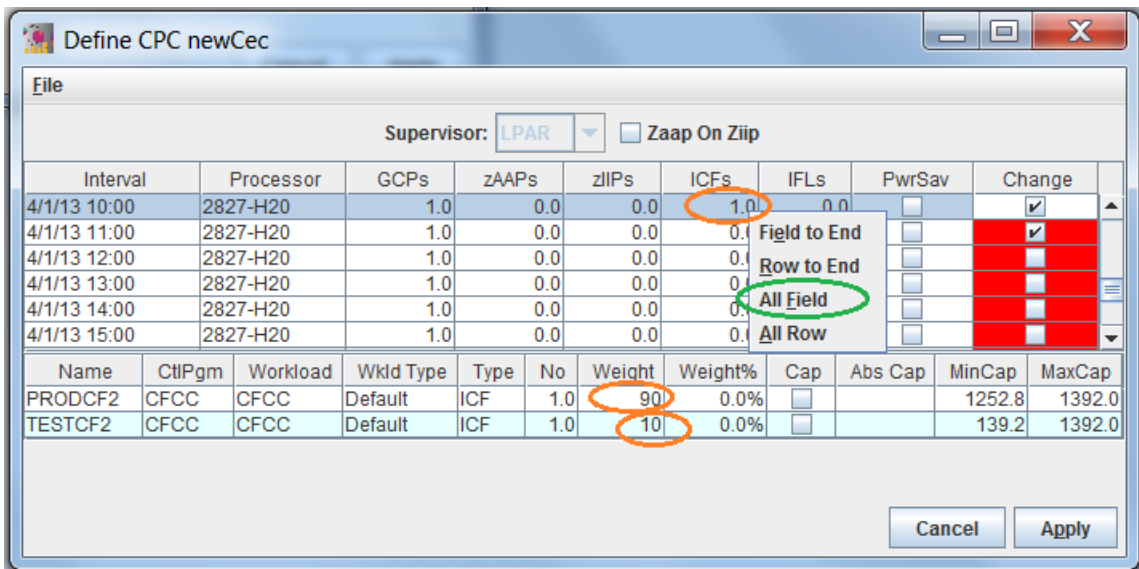

Figure 6. Partition definition for the new CPC
**Step 3**, right click on an empty area of newCEC and select the “Definition” option to fix the CPC definition (Figure 6. Partition definition for the new CPC). We need to change several things here: